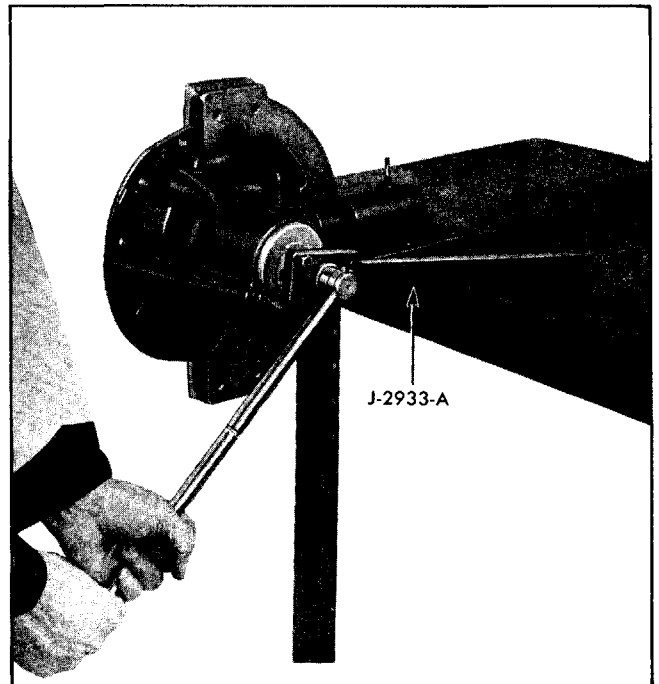

Fig. 4-40 Tightening Drive Pinion Nut
26. Position assembly as shown in Fig. 4-40 and tighten nut only enough to remove most of end play, using Flange Holding Tool J-2933-A and heavy duty socket.